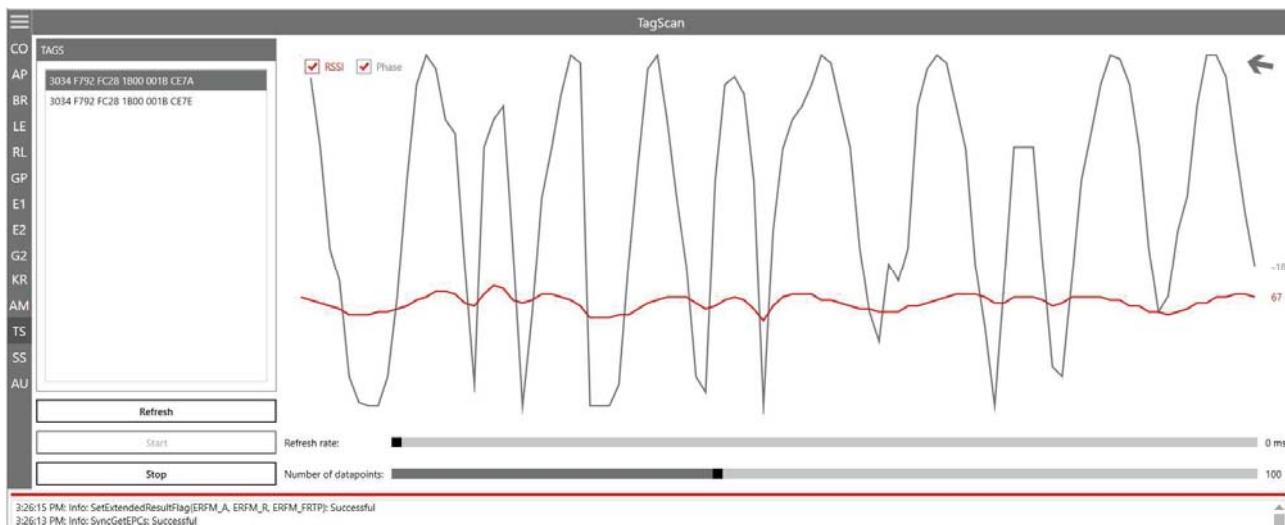

Figure 61 TagScan: phase shift, transponder is moved
Figure 61, the channels 4, 10 and 13 are occupied by other readers. If the user is not satisfied with the reading results and the interferences keep occurring, it is possible to deactivate channels on which the interference occurs (4, 10 and 13) and only activate the channel that is free (7) to achieve better reading results, see (16) in Figure 45